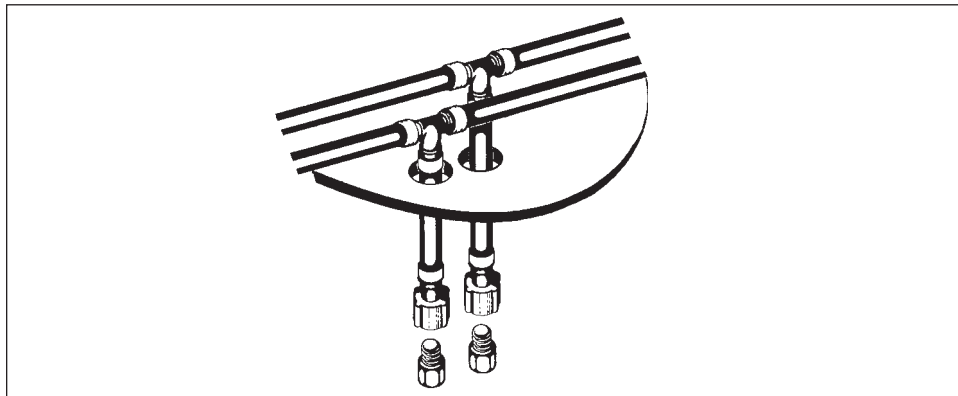

FIGURE 18 TYPICAL DRAIN CAPS
2. Open all faucets, including the water heater, and leave them open. After opening the hot and cold water faucets, open the drain valves on the HOT and COLD water pipes. These caps are located under interior cabinets at floor level and drain through the floor (See Figure 18).